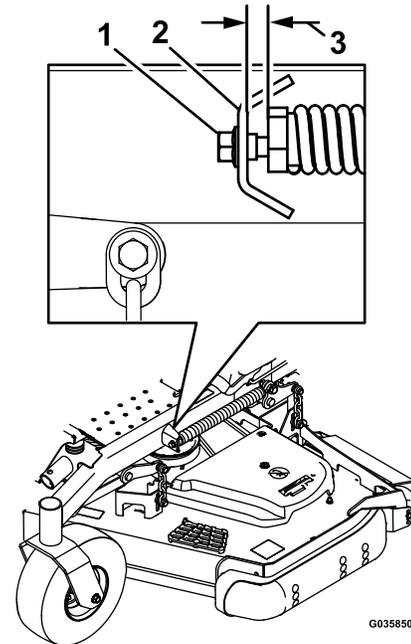

Figure 66
- B. Slowly loosen the adjusting screw on the lift assist spring until the screw can be removed (see Figure 66). Save the screw for reinstallation.
removed (see Figure 66). Save the screw for reinstallation.
- Set the gap between the spring and bracket to 3/4–7/8 inch (19–22 mm) (see Figure 66).